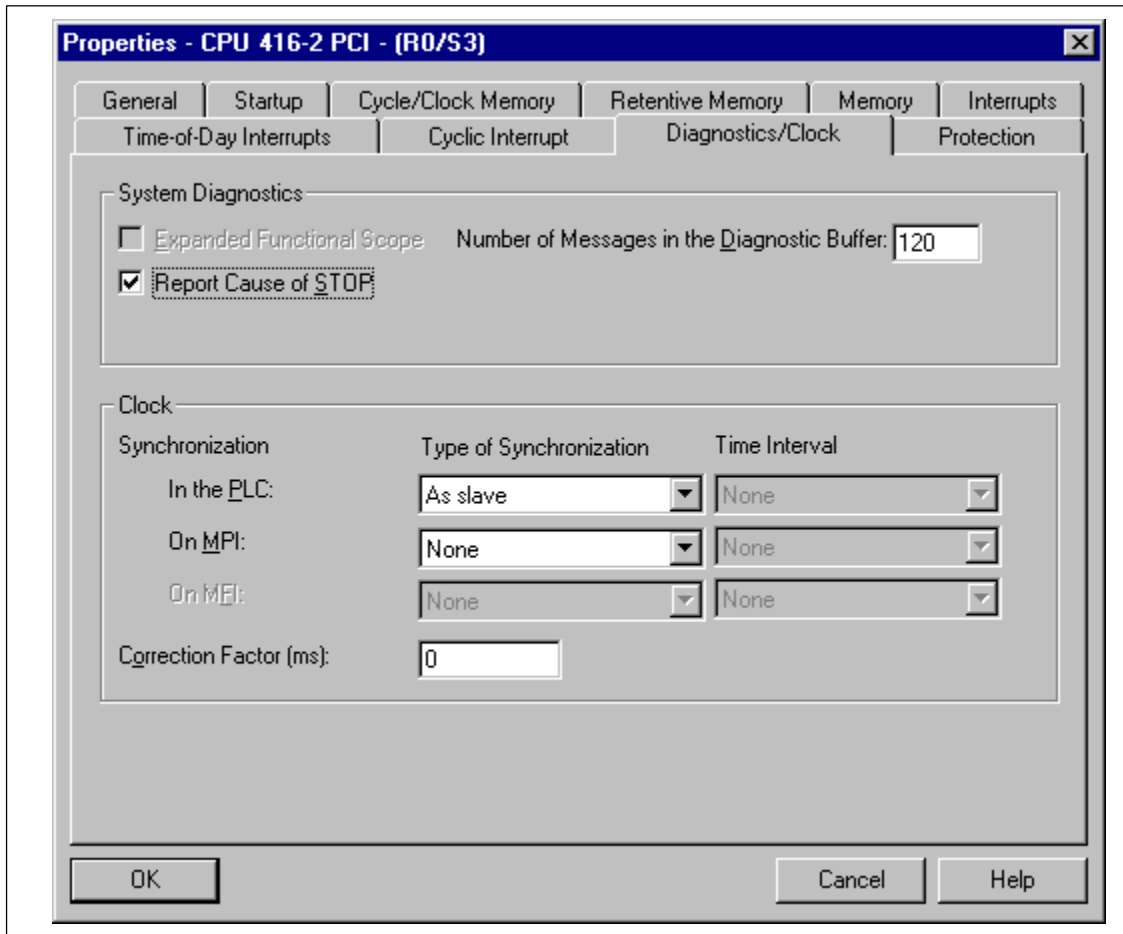

Figure 7-17 Setting the Synchronization Mode
3. Set the synchronization mode as shown in Figure 7-17.